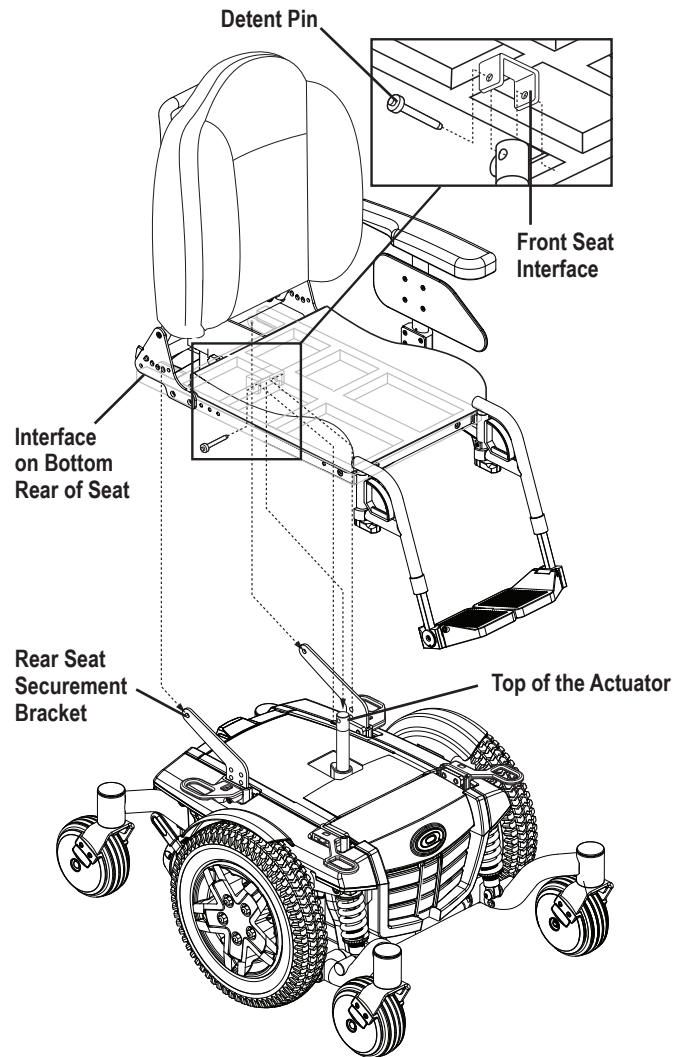

Figure 4. Mounting System and Contour Seat
1. Tilt the seat back and align the interfaces on the bottom rear of the seat with the rear seat securement brackets on the power base and secure with the hardware. **See figure 4.**
2. Remove the detent pin from the front seat interface. **See figure 4.**
3. Pivot the seat rearward and remove the seat from the power base by removing the hardware that attaches the rear seat securement brackets to the interfaces on the bottom of the rear of the seat. **See figure 4.**
8. Reinstall the front seat interface to the top of the tilt actuator using the detent pin. **See figure 4.**